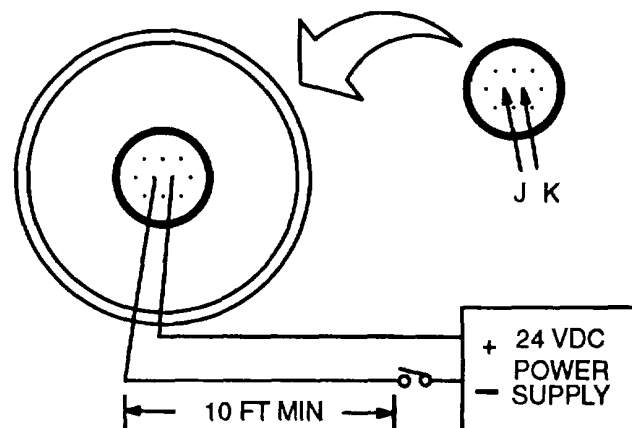

Figure F-3. Wiring diagram for firing BA-629/U and BA-630/U
(a) To fire the battery, an electrical current must be applied to pins J and K (the two centrally located pins) of the battery connector. See figure F-3.
(b) Connect a switched power supply to pins J and K as indicated in figure F-3. Fire the battery by closing the switch for no more than three (3) seconds.